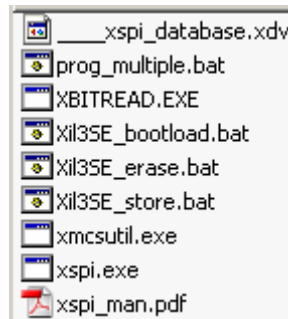

Figure 1 – FLASH_BURN Directory Contents after Extracting XSPI
- The version of XSPI included with this project is dated January 26, 2006. If you would like to update XSPI, unzip XAPP445 design file install_xspi.zip into the Xil3S500E_Serial_Flash_v81\FLASH_BURN directory. Run the self-extracting archive spi_setup.exe in this directory, extracting xspi.exe, the database .xdv file, and the readme file xspi_man.pdf in this directory. It is assumed that you have read and are familiar with the information contained in XAPP445. The FLASH_BURN directory contents are shown in Figure 1.